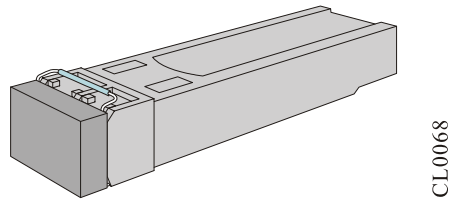
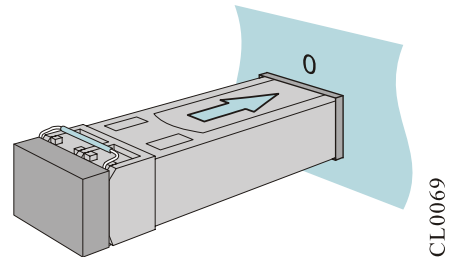

FIGURE 4-8 SFP MODULE
FIGURE 4-9 INSTALL SFP MODULE
- Step 3: Get the SFP+ module out from the packing box. The diagram of the SFP+ module is as shown in Figure 4-8 Use the hands to hold the two sides of the SFP+ module and push it into the interface slot of the switch horizontally until the SFP+ module is close-contact with the slot (you can feel that the shrapnel at the top and bottom of the SFP+ module stuck the interface slot), as shown in Figure 4-9.